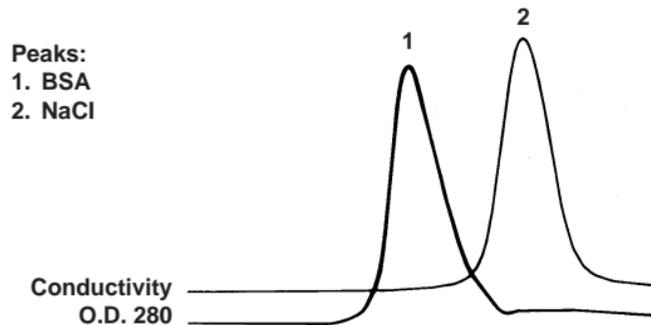

Fig. 5.1. Protein desalting with the Econo-Pac 10 DG desalting column.
- 6b. Elute the desired components with 8 ml of buffer, while collecting 1 ml fractions from the column. Analyze the fractions with the appropriate detector and plot the results against the fraction number. Pool the desired fractions (See Figure 5.1).